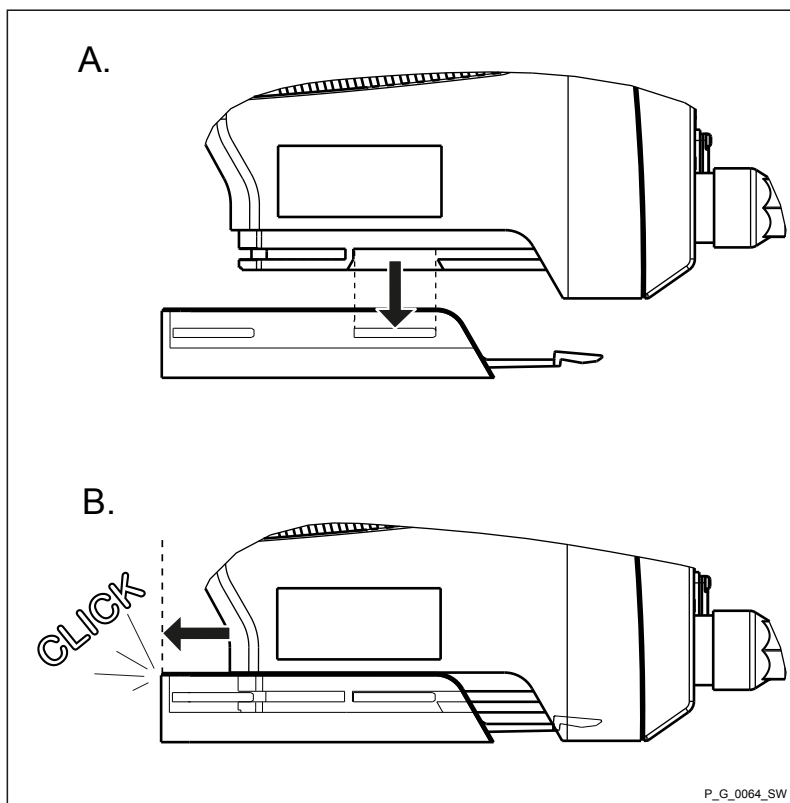

Fig. 9
3. ➞ Lock the foot of the metering pump into the mounting plate – see further information Fig. 9.